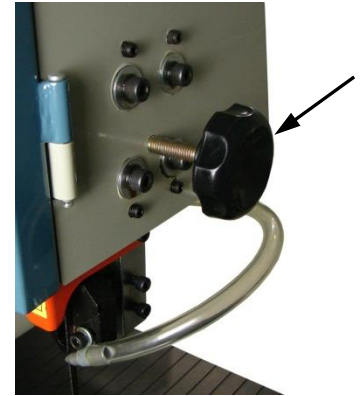

figure 25
3. Locate the bottom of the blade guides .25" (6.35mm) above the piece part and tighten the guide post knob (fig. 25) to hold it securely.